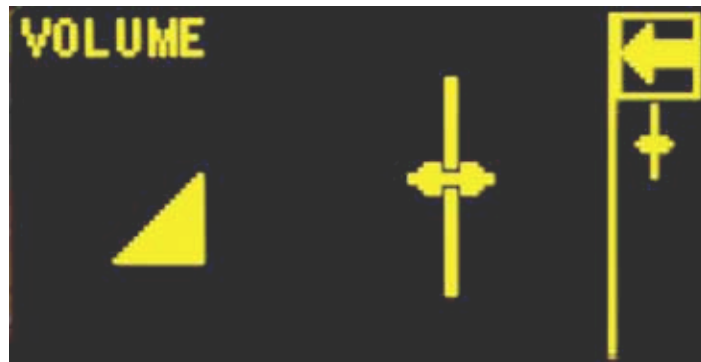

Figure 13. VOLUME screen
From the EFFECT OPTIONS menu select “Volume” to obtain the VOLUME screen (see Figure 13):
4. move box cursor on the left-arrow “□” icon (at top right corner in Figure 13) and push ball down to return to “EFFECT OPTIONS” screen